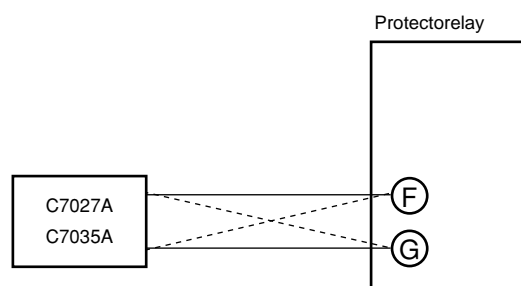

Fig. 3
1. Avoid absolutely the connection of the dotted lines on Fig. 3 to prevent the Flame Detector damage.